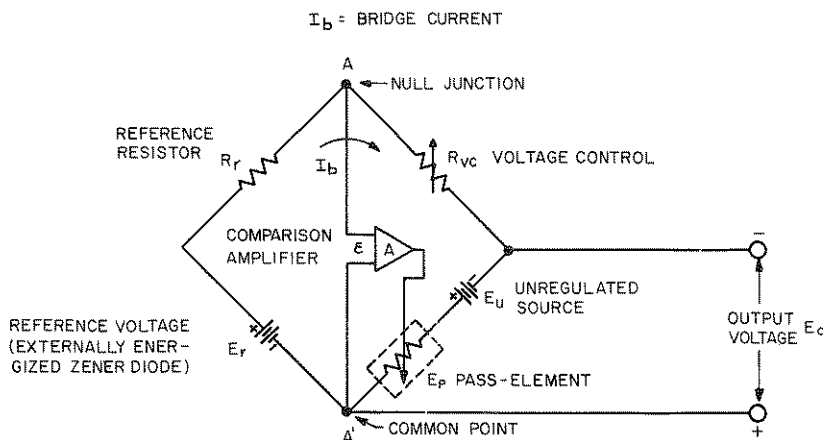

FIG. 3-3 KEPKO POWER SUPPLY CIRCUIT WITH COMPARISON BRIDGE (SIMPLIFIED)
- 3-9 GENERAL. A few general remarks may be in order to familiarize the user of this equipment with the terminology and basic equations pertaining to remote programming of Kepco Power Supplies. Electrically, the power supply, consists of the unregulated DC source ( $E_U$ ), the pass element ( $E_P$ ), the DC error amplifier (A) and a comparison circuit which resembles a four-arm electrical bridge. (Refer to FIG. 3-3). The elements of the bridge are arranged to produce a virtual zero at the amplifier input when the bridge circuit is at balance ( $V_{AA'} = 0$ ). Any tendency for the output voltage to change in relation to the reference voltage ( $E_r$ ) creates an error signal ( $e$ ) which, by means of negative feedback and the amplifier, tends to correct the output voltage towards restoration of bridge balance.